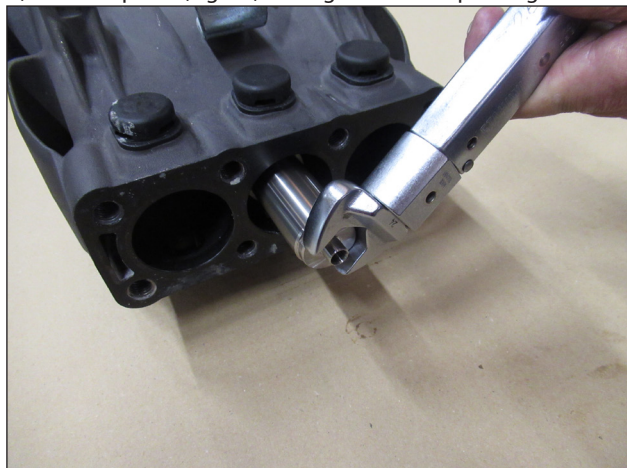

Fig. 49
A) Fit the spacer (Fig. 49) and tighten on the piston guide rod.